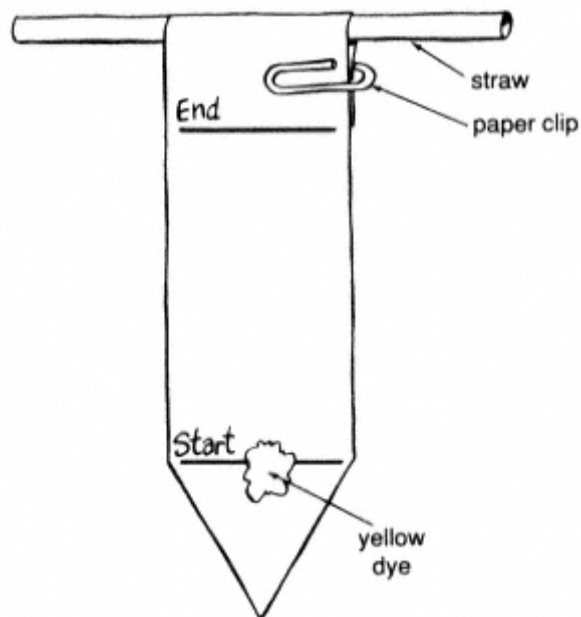

Figure 16.1
17. Paper clip the strip around the straw (see Figure 16.1).